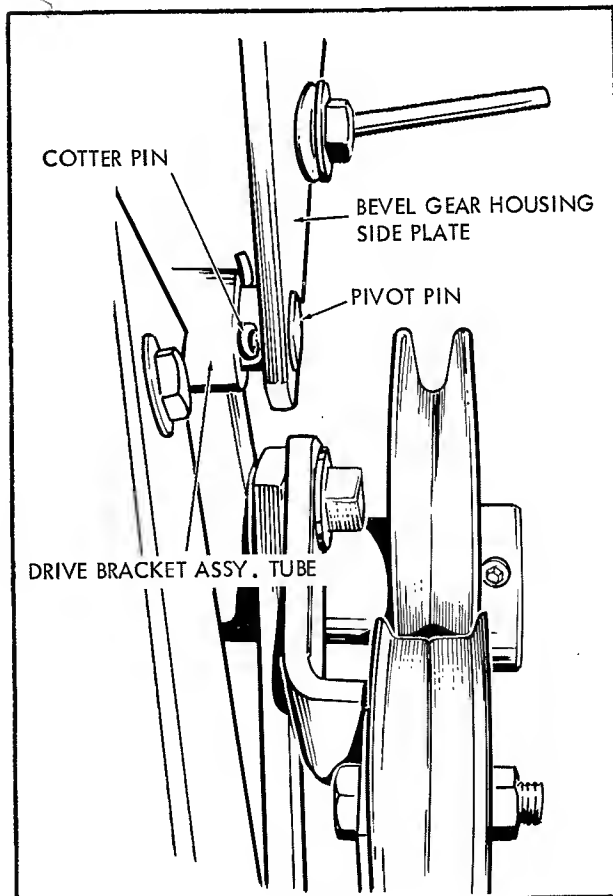

Fig. 3
3. Push pivot pin through the holes in bracket and tube until the position of cotter pin hole in pivot pin is as shown in figure 3. Secure in position with cotter pin furnished.